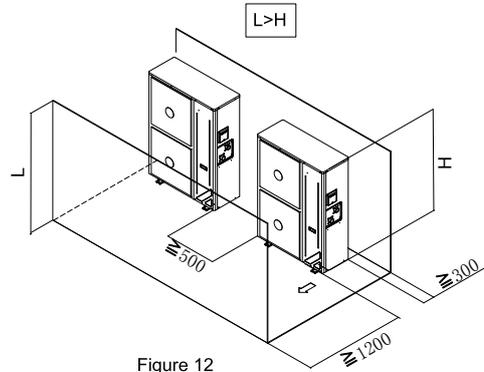

Figure 12
- b. Group installation (two or more units) (see Figure 12)